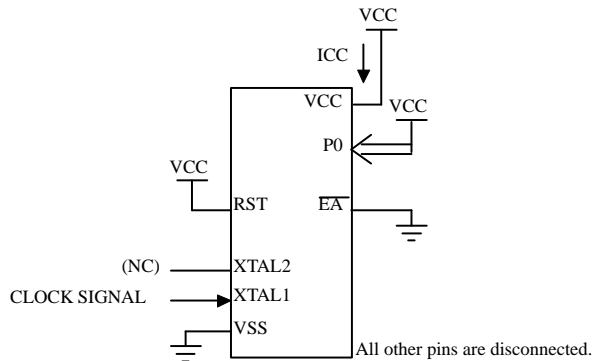
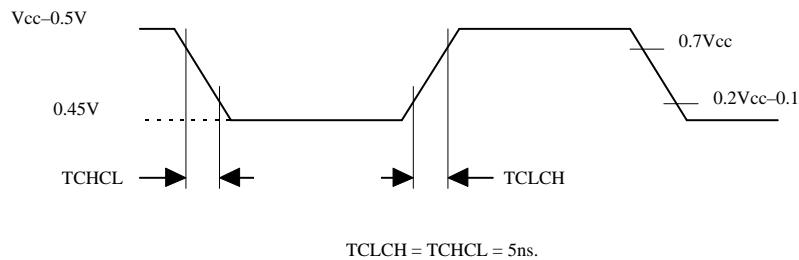

Figure 17. ICC Test Condition, Active Mode.
Figure 20. Clock Signal Waveform for ICC Tests in Active and Idle Modes.
- ICC is measured with all output pins disconnected; XTAL1 driven with TCLCH, TCHCL = 5 ns (see Figure 20.), $V_{IL} = V_{SS} + 0.5\text{V}$, $V_{IH} = V_{CC} - 0.5\text{V}$; XTAL2 N.C.; EA = RST = Port 0 = VCC. ICC would be slightly higher if a crystal oscillator used (see Figure 17.).